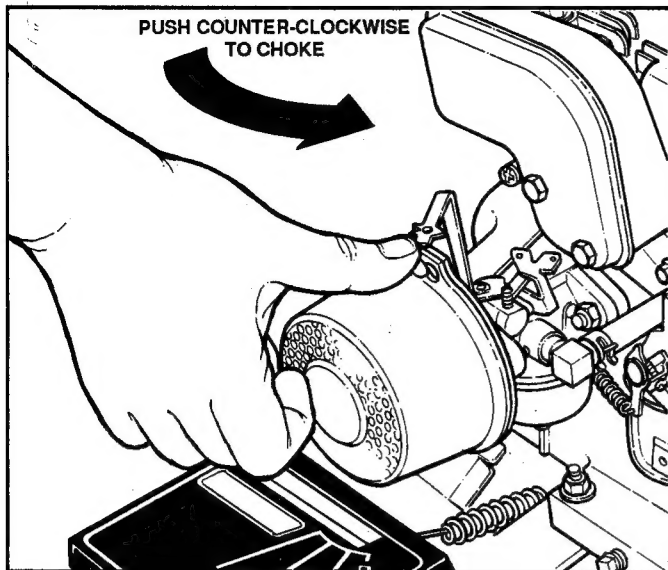

FIGURE 5
STEP 2: On cold starts, move the CHOKE CONTROL on the engine to CHOKE position. See Figure 5.